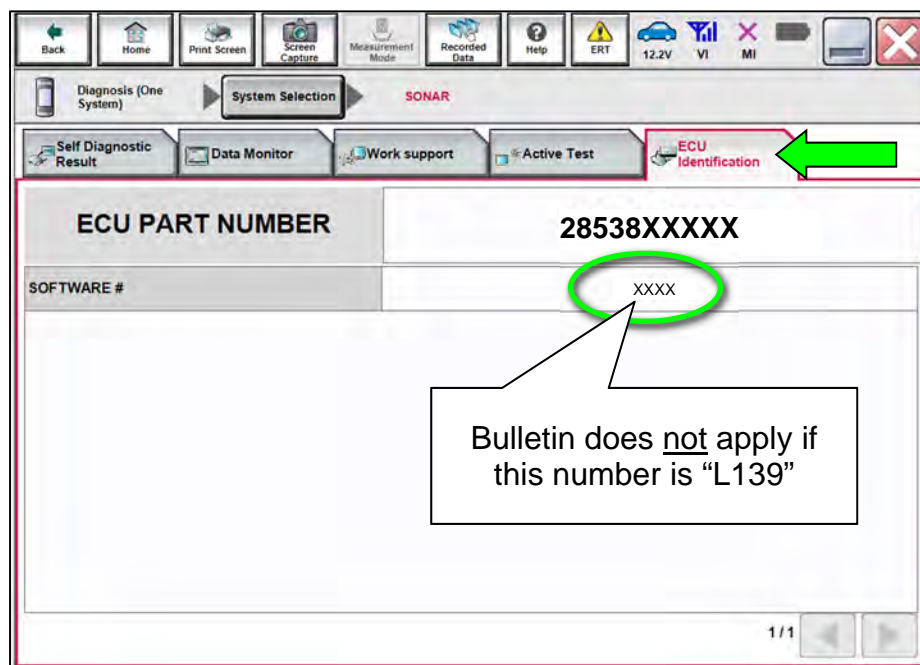

Figure 5
16. Confirm the current **SOFTWARE #** (Figure 5).